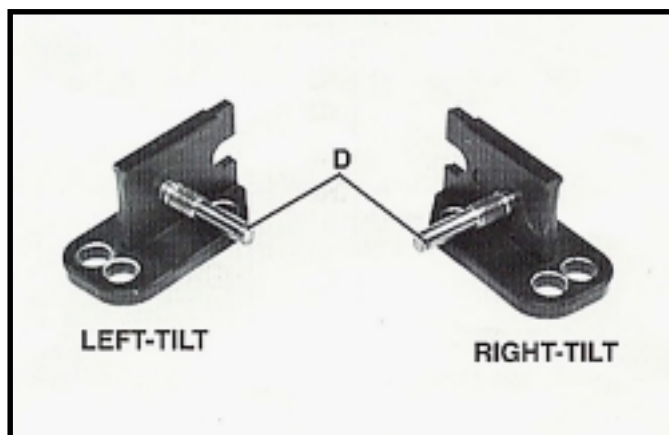

Fig. 14
13. Fig. 14 illustrates stud (D) assembled to splitter mounting bracket for both the left and right-tilting arbor saw.